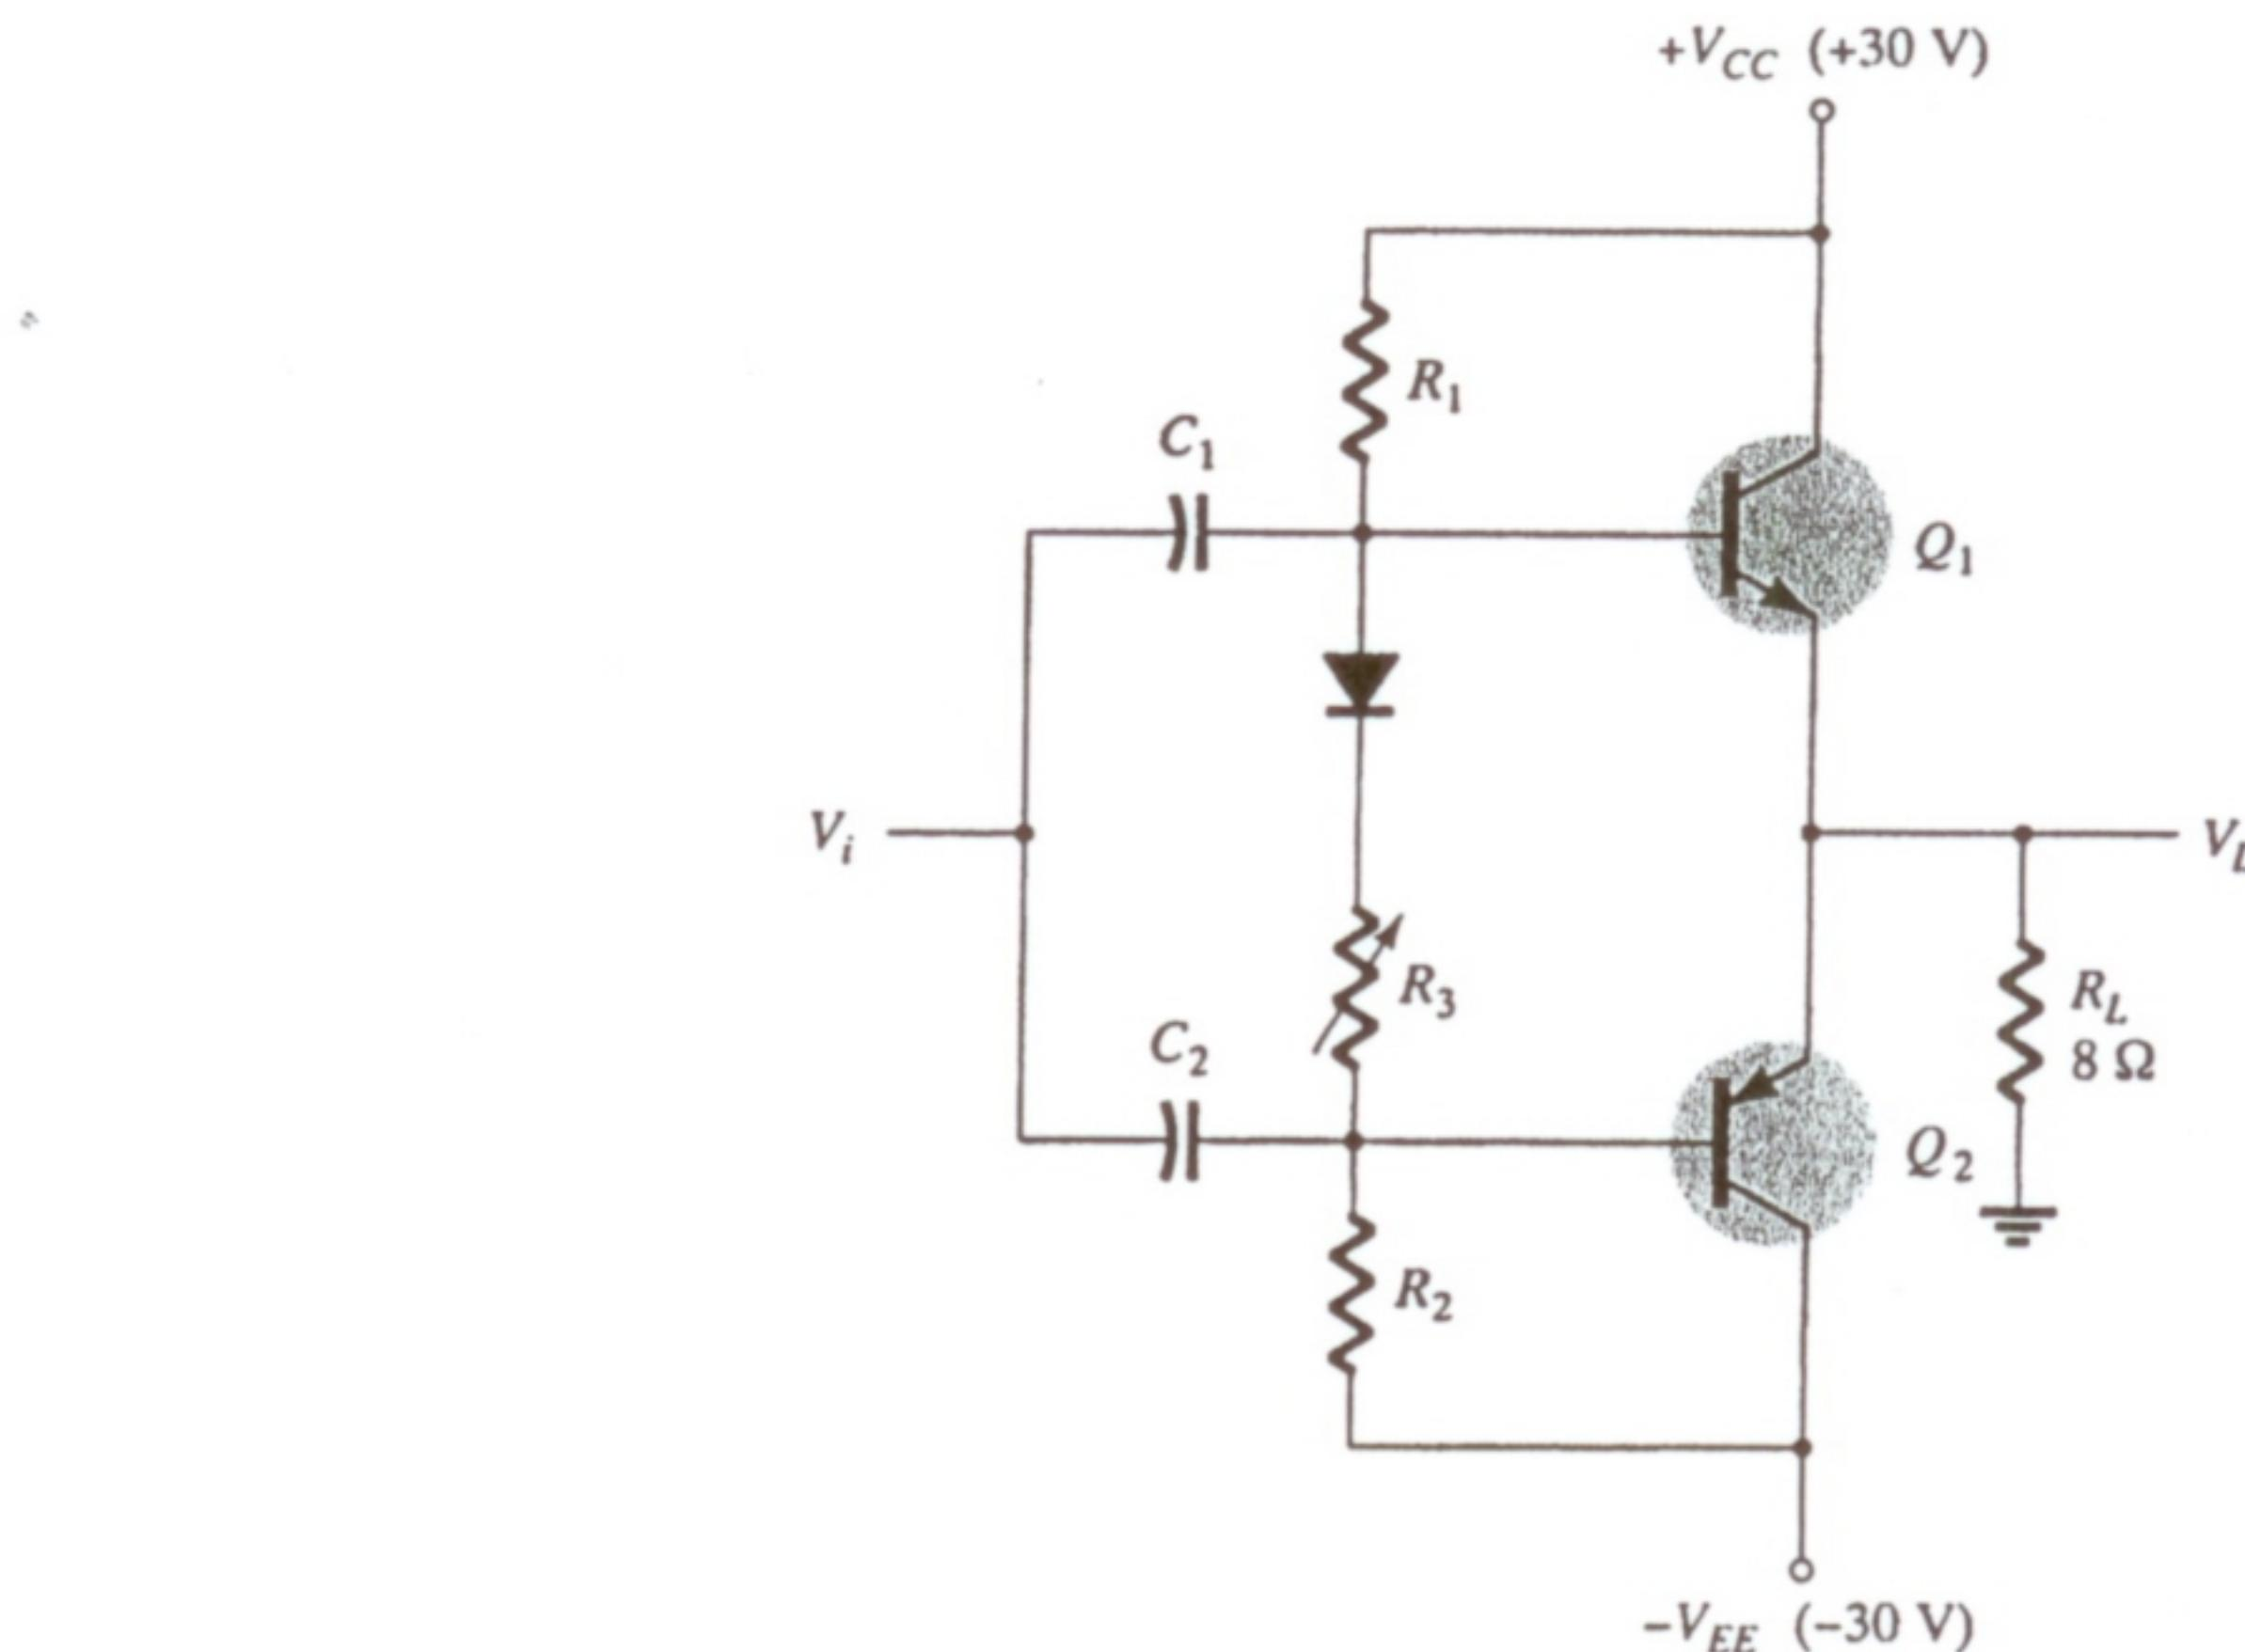

FIG. 12.36
- For the class B power amplifier of Fig. 12.36, calculate:
*17. If the input voltage to the power amplifier of Fig. 12.36 is 8-V rms, calculate:
- *27. Use Design Center to draw the schematic of Fig. 12.36 with $V_i = 25 \text{ V(p)}$. Determine the circuit efficiency.